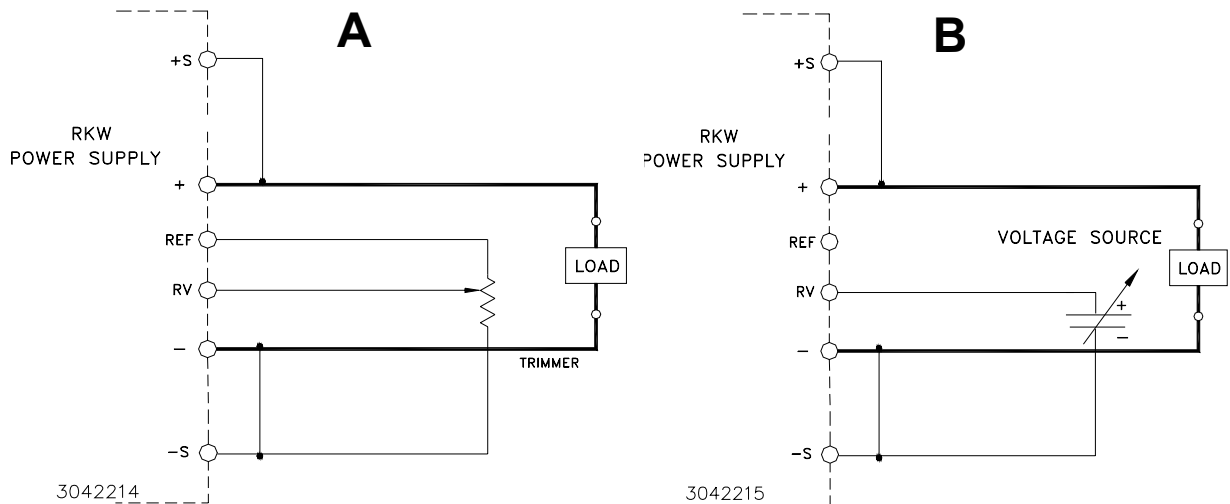

FIGURE 5. CONNECTIONS FOR REMOTE VOLTAGE CONTROL
RESISTANCE: Use a shielded wire 6.6 feet (2M) maximum in length, for connection (of REF, RV, and –S terminals) to the trimmer control. Connect the external trimmer as shown in Figure 5 (A). Suggested value for the trimmer control is 5K ohms). With the external trimmer control at its maximum clockwise position, set the output voltage to the desired maximum value by adjusting Vadj clockwise. The value should range from 0 to 120% of Eo nominal (from 0 to 110% for the 48-volt model, and for the 3-volt model). The remote voltage control may not be able to go down to zero volts because of the residual resistance of the potentiometer (could be about 10%).
VOLTAGE. By adjusting an external 0-6V voltage source (0-5.5V for the 48-volt model) from minimum to maximum, the maximum output voltage can be adjusted from 0 to 120% (V) (for the 3.3 volt and 48 volt models 110%). Remove the shorting link between the REF and RV terminals. Connect the voltage source across the RV and (–)S terminals as shown in Figure 5 (B).